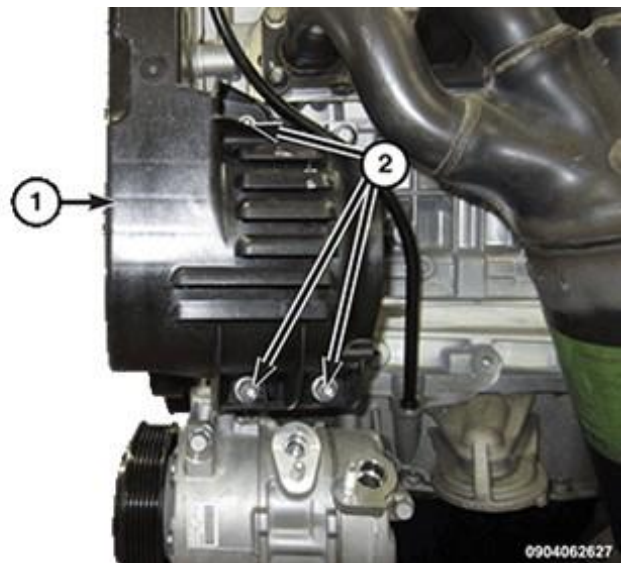

Figure 9 – Belt Guard
16. (VM) **Ram ProMaster City Only:** Remove three nuts (2) and reposition the belt cover (1) (Figure 9).
47. **(VM) Ram ProMaster City Only:** Install the belt cover (1) with three nuts (2) then tighten the nuts to 8 N·m (71 in. lbs.) (Figure 9).